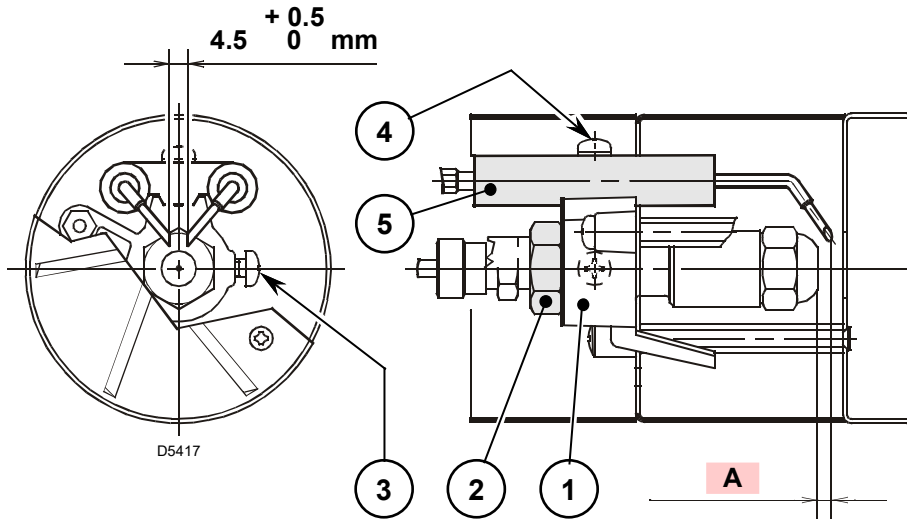

Fig. 15
The measures in Fig. 15 must be complied with.
- Place the diffuser disc holder assembly 1)(Fig. 15) on spray holder 2) and secure with screw 3)(Fig. 15).
- Remove the cables 1) from the electrodes, loosen the screw 3)(Fig. 15) and remove the turbulator assembly 6) from the nozzle holder assembly 5).